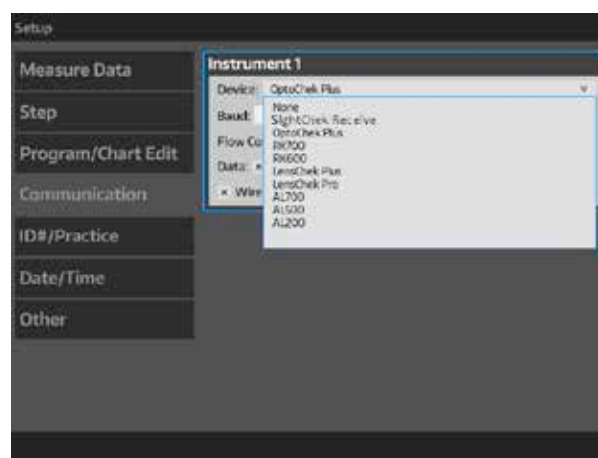

Figure IS-39 Settings Menu
2. Select the instrument from the drop down Device tab. Refer to Figure IS-39.